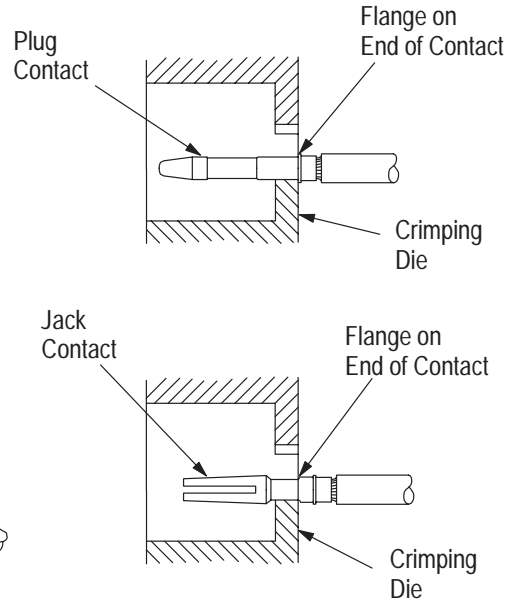

Figure 2
4.1. Crimping the Center Contact (Figure 2)
- Added new lockscrew to artwork in Figures 2, 3, and 4